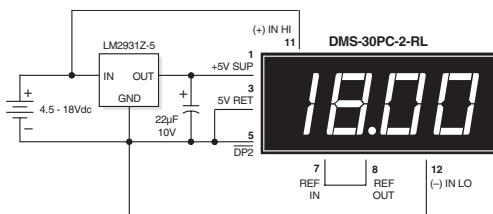

Figure 8. 4.5-18V Power Supply Monitor
6. **Power Supply Monitoring:** One of the most common digital panel meter applications involves monitoring the output voltage of the system power supply — often this supply also powers the meter itself. The low-power, red LED DMS-30PC-2-RL can be configured to allow power supply monitoring over the range of 4.5-18Vdc. The circuit in Figure 8 uses a low-drop-out, three-terminal regulator (LM-2931Z-5, available from National Semiconductor) to provide regulated 5V power to the meter. The LM-2931 was chosen because it has the following on-chip